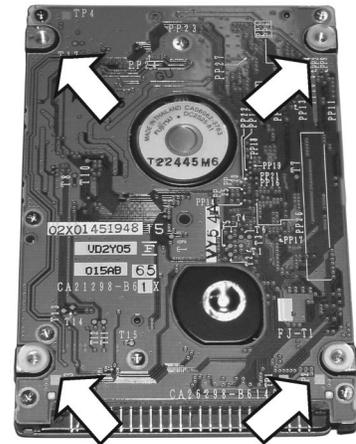

Fig. MM-2
1. Place the mirrored (**secondary**) hard drive on the work surface with the printed circuit board up and the connector facing you (**Fig. MM-2**). Place a nylon spacer (washer) over each of the threaded mounting holes.